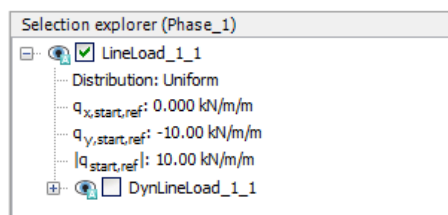

Figure 85: Line load in the Selection explorer
- After selecting the line load assign a value of -10 to  $q_{y,start,ref}$  in the **Selection explorer** shown in Figure 85 (on page 112):